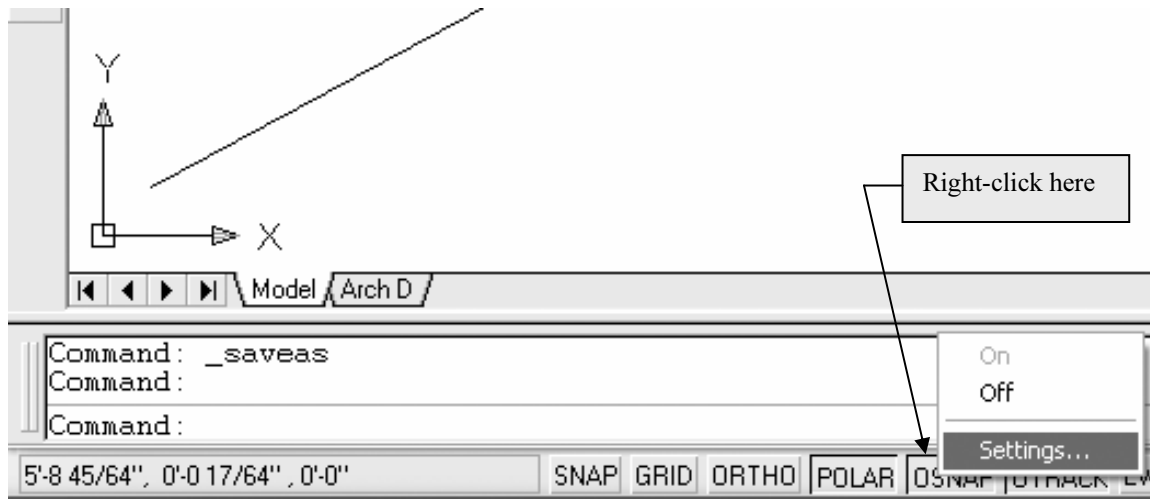

Figure 2-2.4 Right-click on OSNAP button located on the Status Bar
3. Right-click on the *OSNAP* button on the *Status Bar* and select **Settings** from the pop-up menu. (Figure 2-2.4)